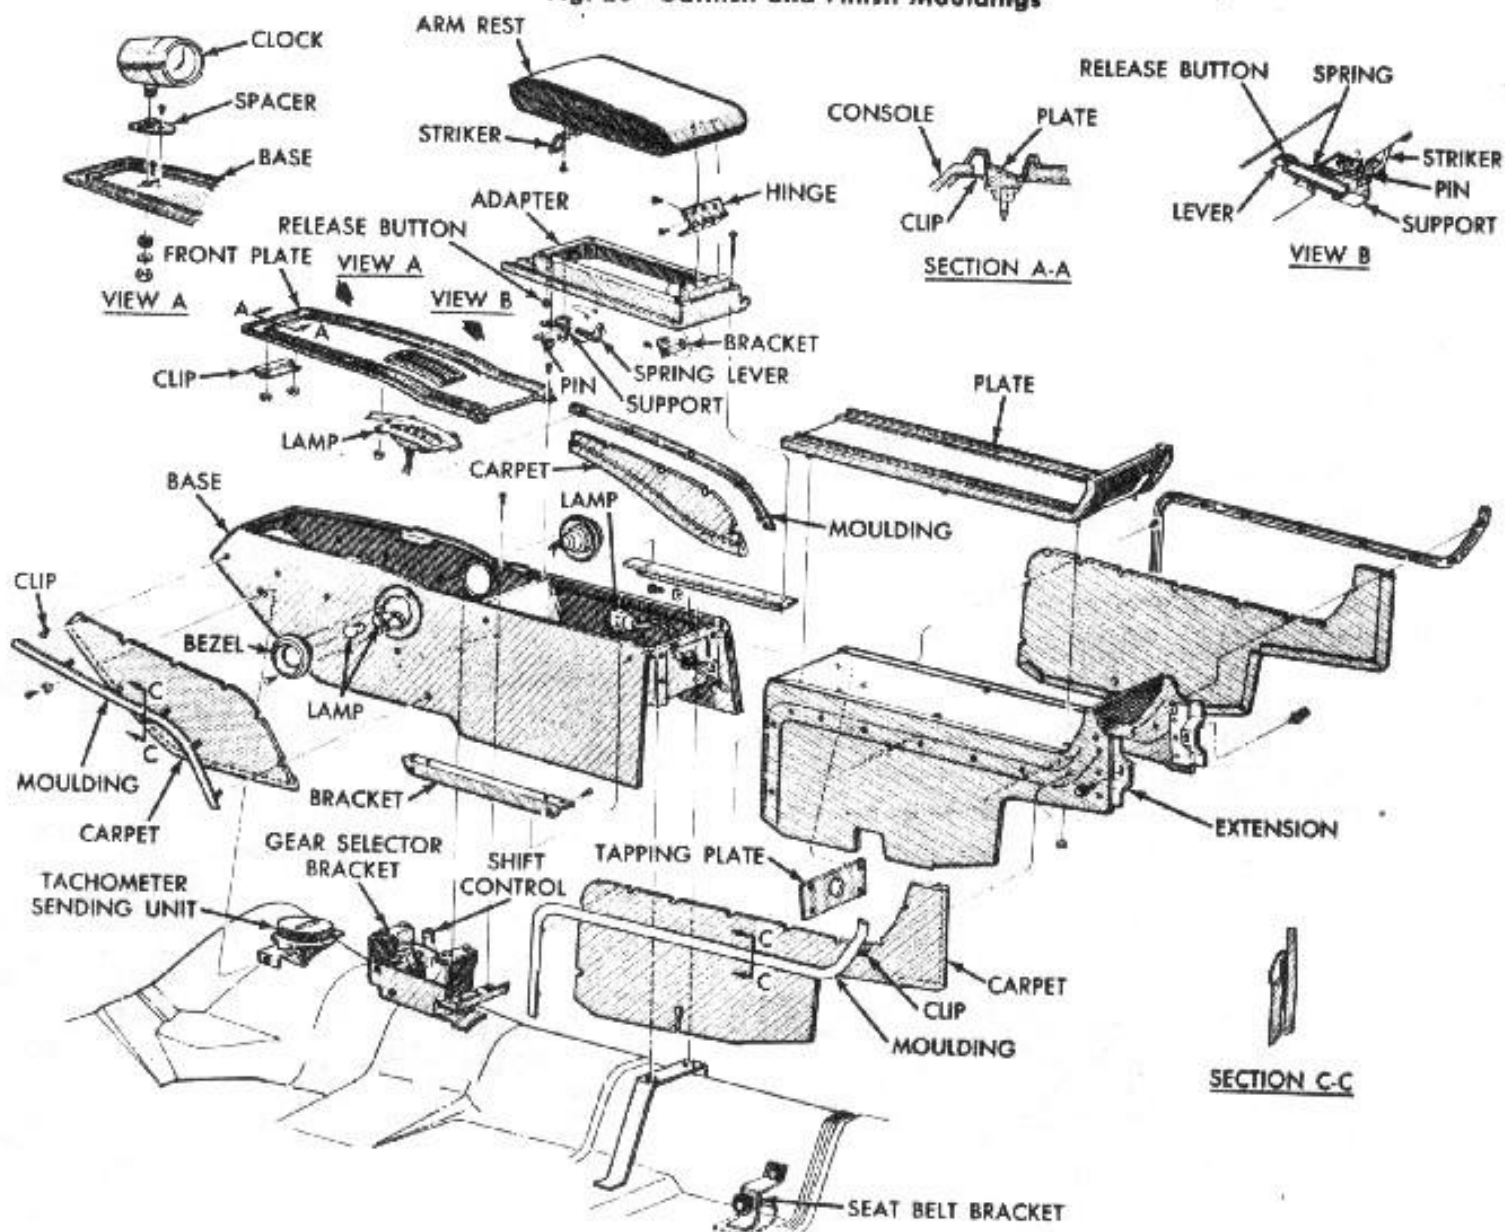
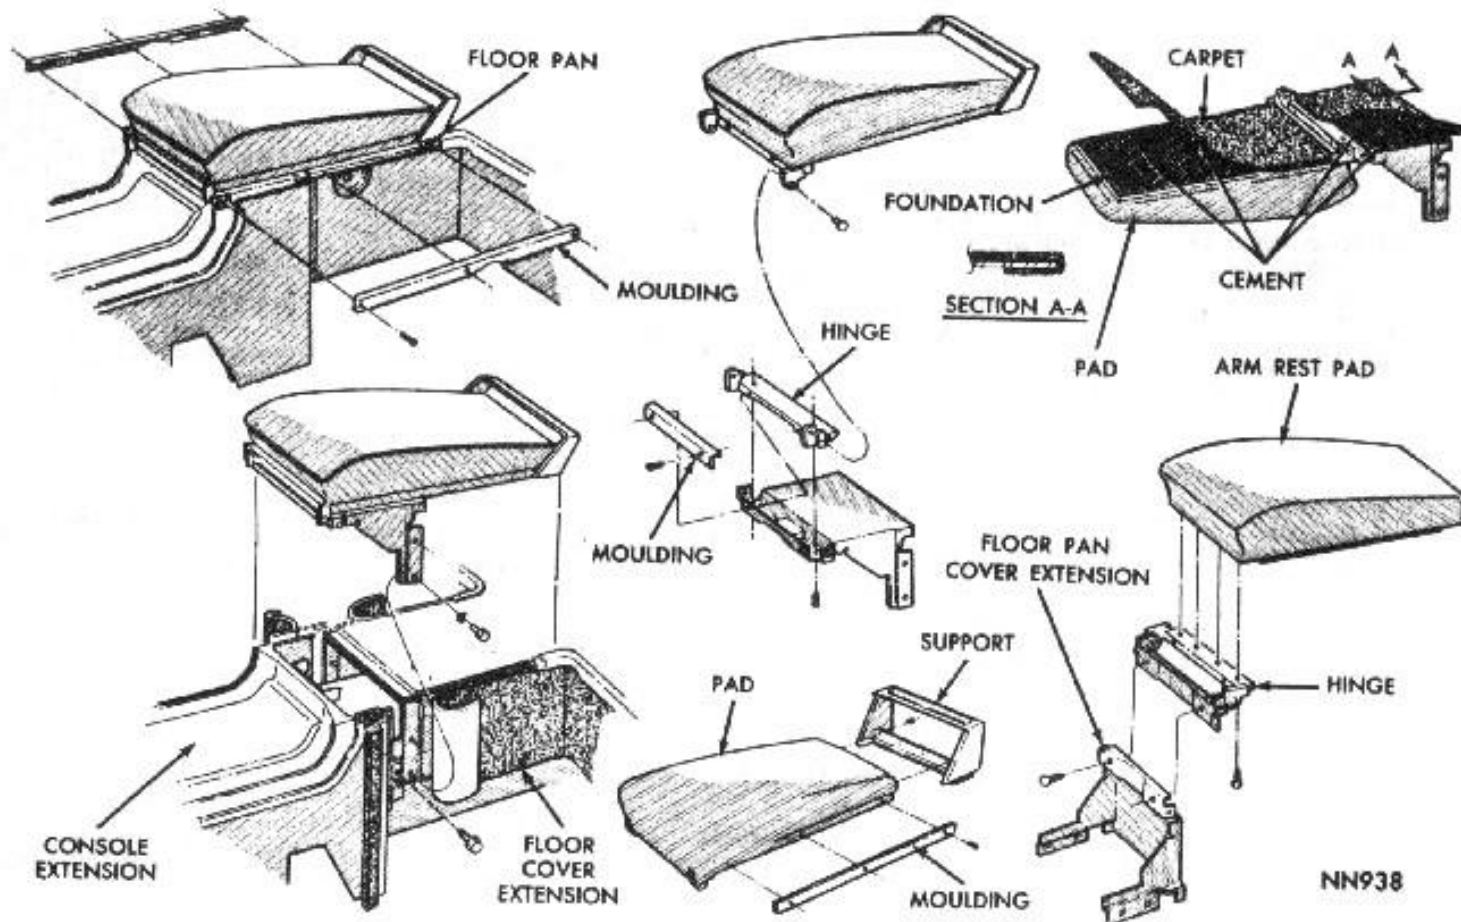
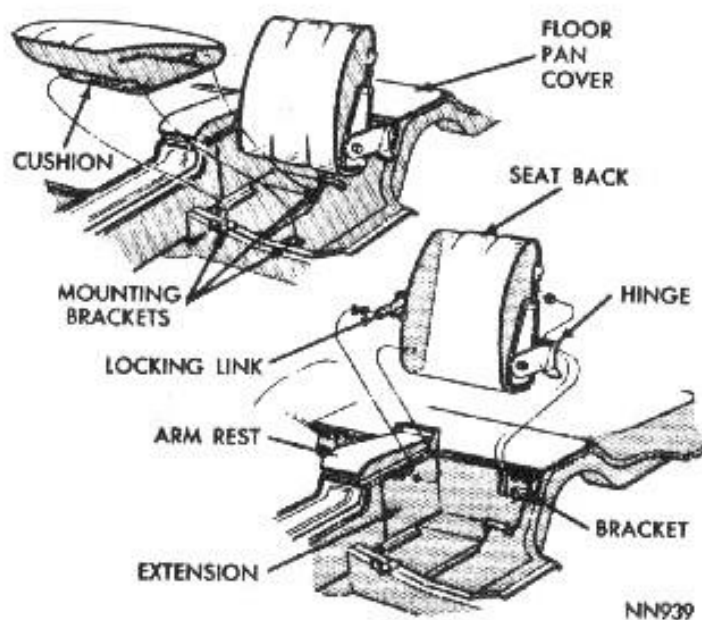

Fig. 21—Console Base and Extension
Fig. 22—Rear Arm Rest Assembly
Fig. 23—Rear Seat Attachment
The console base assembly (Fig. 21) is serviced in the same manner as 1966 Coronet Models. The extension assembly (Fig. 22) incorporates a folding arm rest to accomplish a flat center floor surface when the rear seat backs (Fig. 23) are also folded down. Refer to the seat section for rear seat back and cushion application to floor pan.
- (1) Remove the rear seat cushion.
- (2) Remove bolt and washers attaching locking link to center floor pan cover extension panel (Figs. 23, 27 and 28)
- (3) Remove nuts attaching body half of hinge to the rear floor pan bracket.
- (4) Remove the seat back assembly.